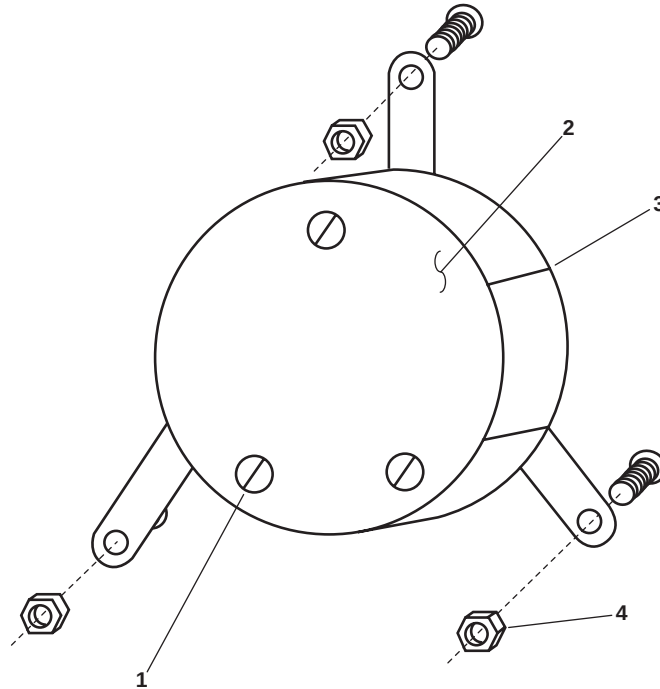

Figure 6. Door Alarm Switch Assembly
1. Remove the three screws (figure 6, item 1) and remove the door alarm switch cover (figure 6, item 2).
2. Use a multimeter to check for voltage at the terminals inside the door alarm switch (figure 6, item 3). If voltage is present, ensure that the proper circuit breaker is set to OFF, locked out, and tagged out (FM 55-502). If no voltage is present, continue with the procedure.
3. Label and remove the wiring from the door alarm switch (figure 6, item 3).
4. Remove the three nuts (figure 6, item 4) that secure the door alarm to the bulkhead.
1. Install the door alarm switch (figure 6, item 3) on the bulkhead studs, securing it with the three nuts (figure 6, item 4).
2. Install the door alarm switch (figure 6, item 3) wiring using the labels from step 3 of Removal as a guide. Remove the labels.
3. Install the door alarm switch cover (figure 6, item 2), securing it with the three screws (figure 6, item 1).